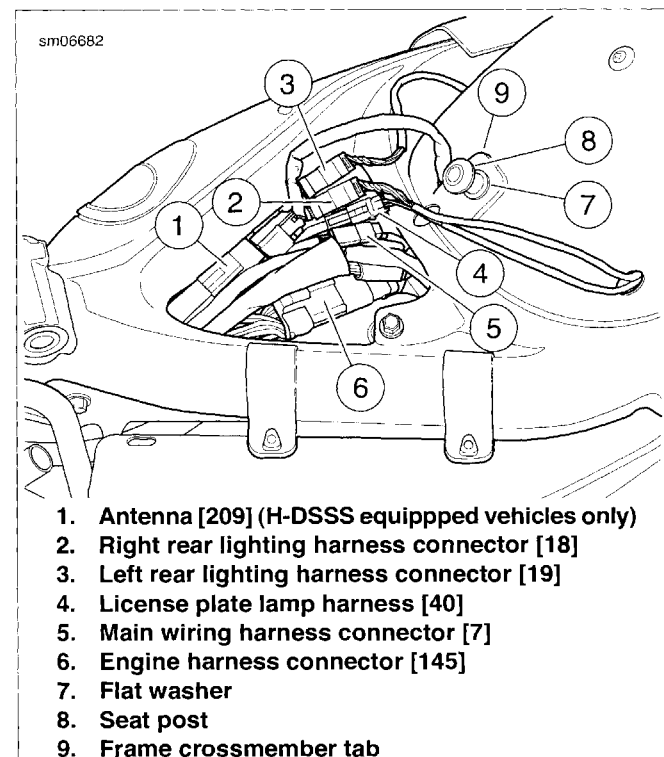
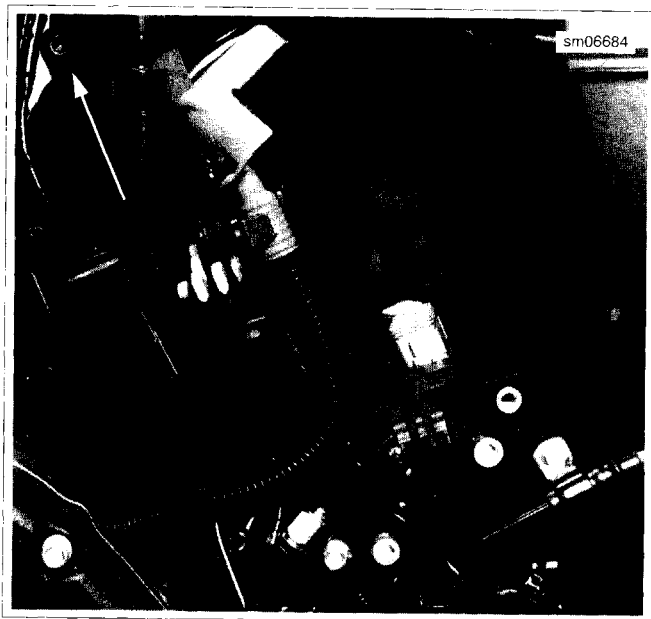
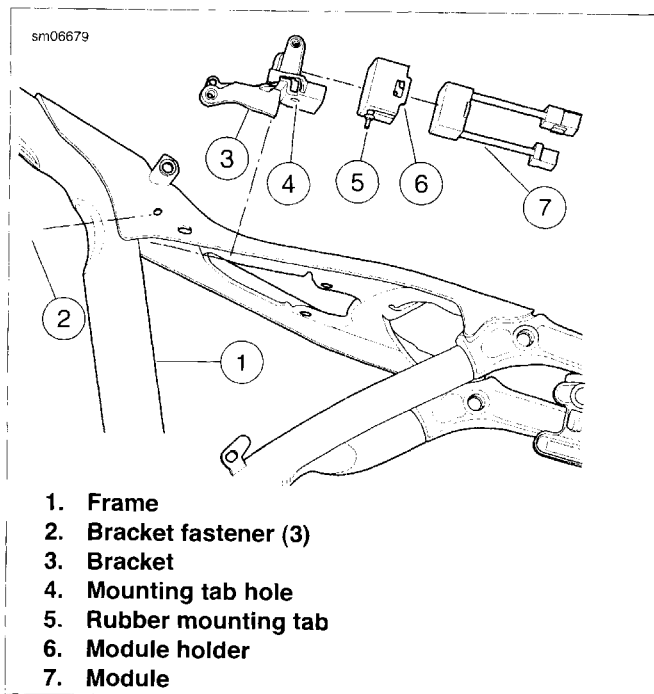

Figure 6-82. Rear Lighting Harness Connectors: XL
Figure 6-83. ECM Caddy Fastener
Figure 6-84. Converter Module
4. See Figure 6-82. Unplug the following harness connectors:
- a. Antenna [209] (1)
- b. Right rear lighting harness [18] (2)
- c. Left rear lighting harness [19] (3)
- d. License plate lamp harness [40] (4)
- e. Main wiring harness [7] (5)
- f. Engine harness connector [145] (6)
5. See Figure 6-83. Remove ECM caddy fastener.
6. See Figure 6-84. Remove bracket fasteners (2).
7. Remove bracket (3) with converter module (7) assembly.
9. Remove rubber mounting tab (5) from mounting tab hole (4) to release module from bracket.
2. See Figure 6-84. Install module (7) and module holder (5) into bracket (3) by pulling rubber mounting tab (5) into mounting tab hole (4).
4. Install but do not tighten bracket fasteners (2).
5. See Figure 6-83. Install ECM caddy fastener. Tighten to 72-96 **in-lbs** (8.1-10.8 Nm).
8. See Figure 6-82. Plug in the following harness connectors: